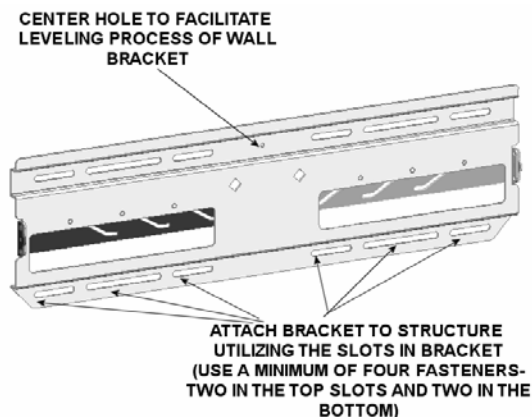
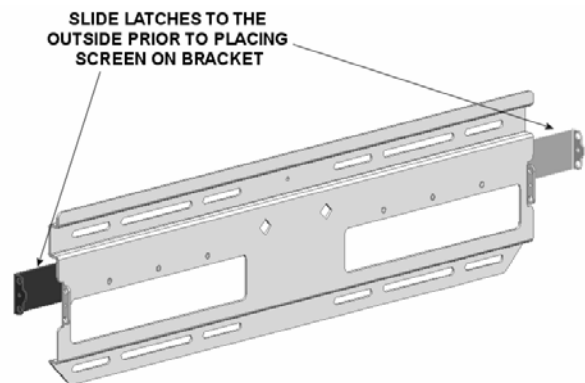

Figure 8. Wall Plate Installation
Figure 9. Slide Latches Outward
2. Using a small nail or screw (not provided) in the center hole, lightly hold wall plate at the mounting location (see Figure 8).
3. Level the wall plate (10) and drill pilot holes for anchoring the wall plate. If drilling into wood studs, use a 15/64" drill bit.
4. Using four 5/16 x 2 1/2" lag bolts (190) and four 5/16" washers (200), install the wall plate on the wall.
5. Slide the latches to the outside (see Figure 9).